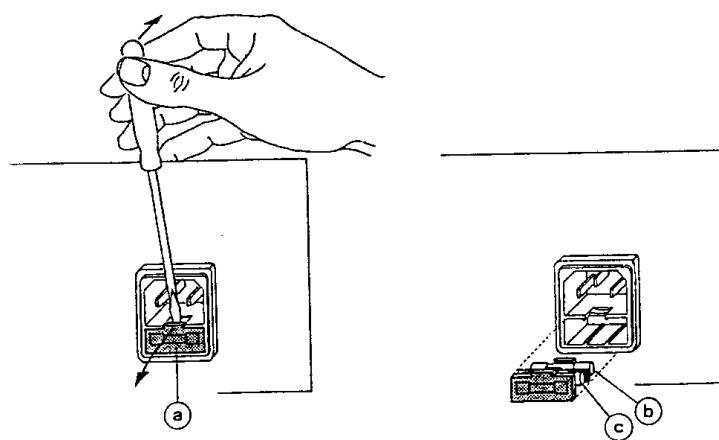

Fig. 10
- Pry the insert ② with socket for fuse ④ and spare fuse ⑤ out of its fitting (Fig. 10).